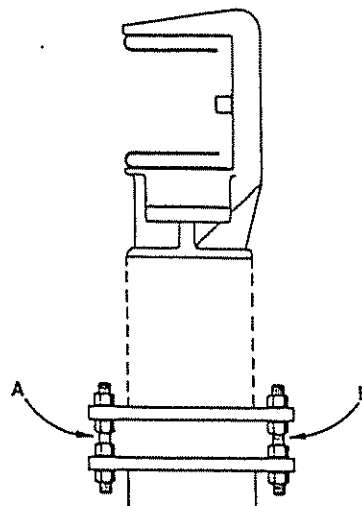

Figure 9
- E. After the above contact engagement adjustments are completed, refer to figure 9 and shorten both jack screws "A" by four flats, and lengthen both jack screws "B" by four flats on both jaw stacks. This procedure establishes proper preload against insulator deflection, and is essential for switch operation. Note the relationship of the parts in figure 9; the jaws must be loaded toward the blade.